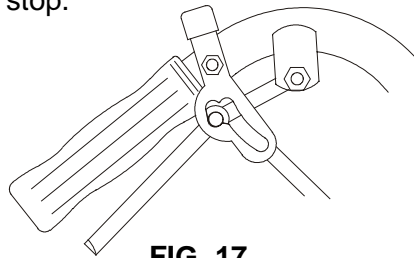

FIG. 17
1. With rear of machine still on jack stands and engine running at full throttle, move the speed control lever to the midway position. Move the respective drive lever upward until it reaches the **neutral** position and engage neutral lock latches. See fig. 17. If the tire rotates in either direction, the length of the drive lever link will need to be adjusted.